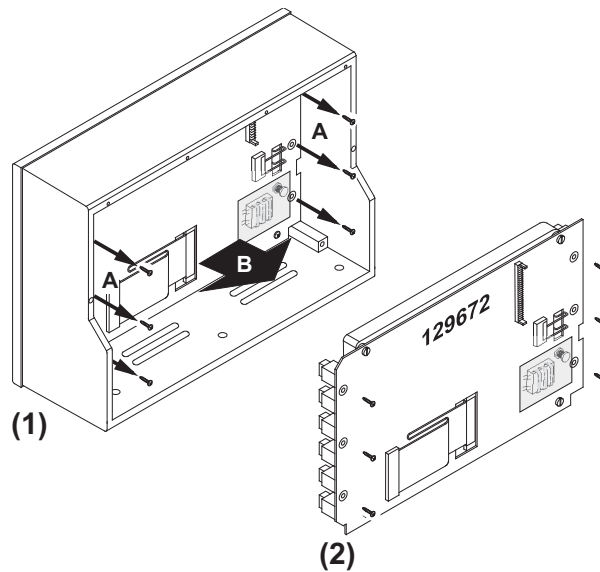

Fig. 8-7: Removing the mounting unit with the display
8. Loosen the six fixing screws (A) of the display pcb and carefully take off the mounting unit (B) out of the frame. (Fig. 8-7)